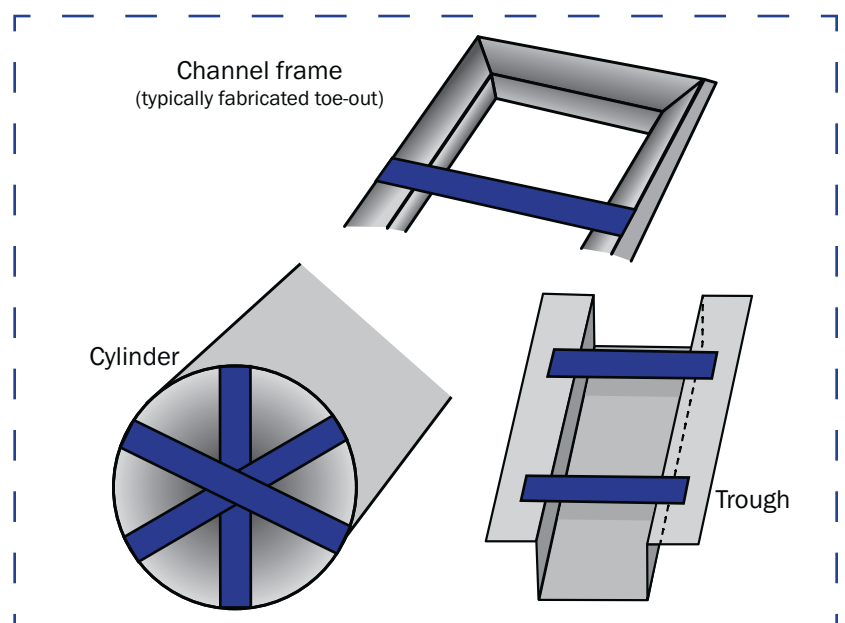

Figure 6: Temporary Bracing
- Use temporary bracing or reinforcing on thin-walled and asymmetrical designs (Figure 6).